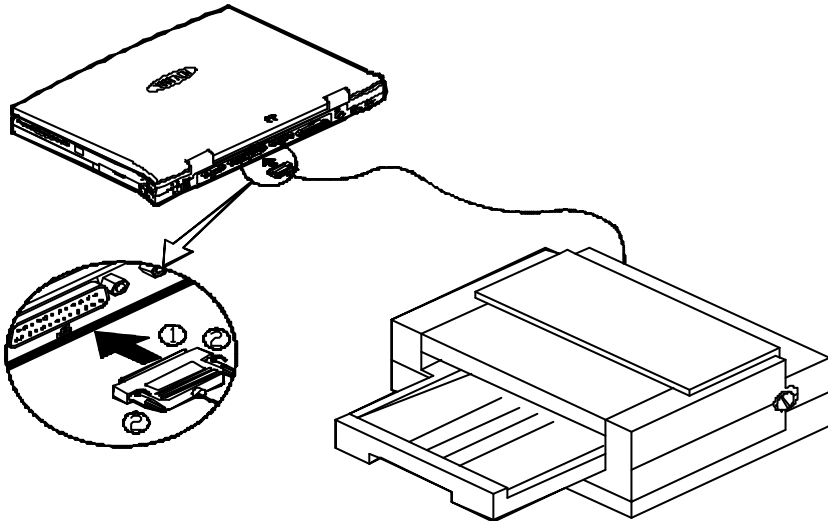

Figure 2-24
- Connect the cable to the parallel port on the rear of the Notebook Computer (Step 1 in Figure 2-24).
- Tighten the screws that fasten the cable to the parallel port (Step 2 in Figure 2-24).